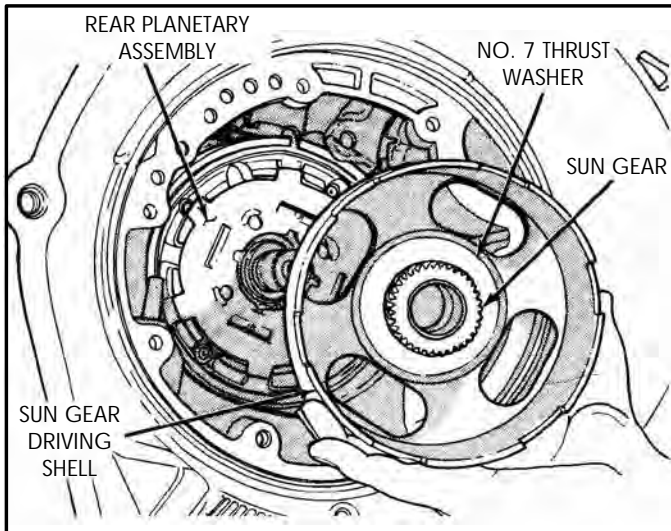

Figure 225
7. Install the sun gear and shell assembly into the transaxle, as shown in Figure 225, ensuring engagement with the rear planetary.